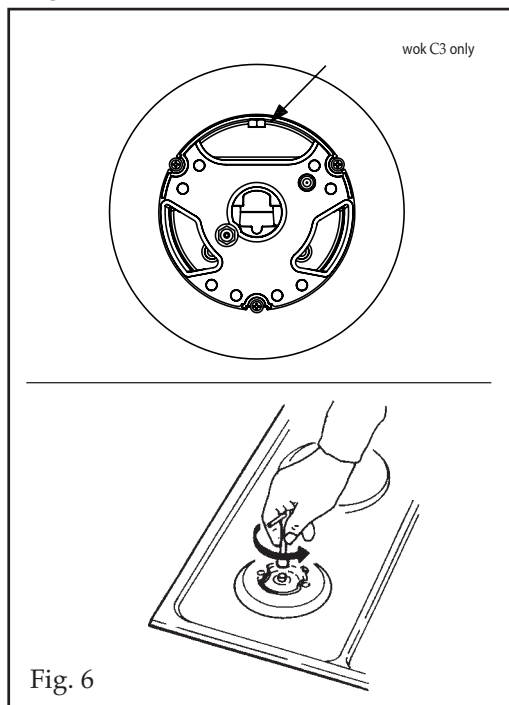

Fig. 6
- to adjust to the minimum, use a screwdriver on the screw placed on the tap (Fig. 6) after turning the tap to its minimum position. For ULPG (butane / propane) screw tight.